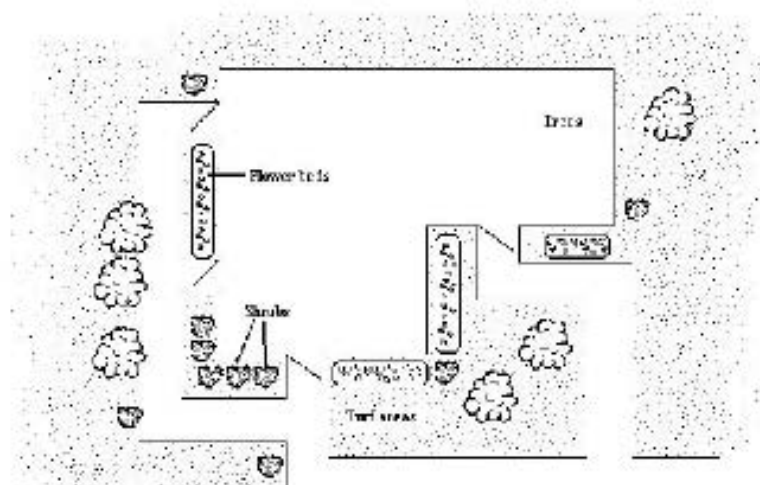
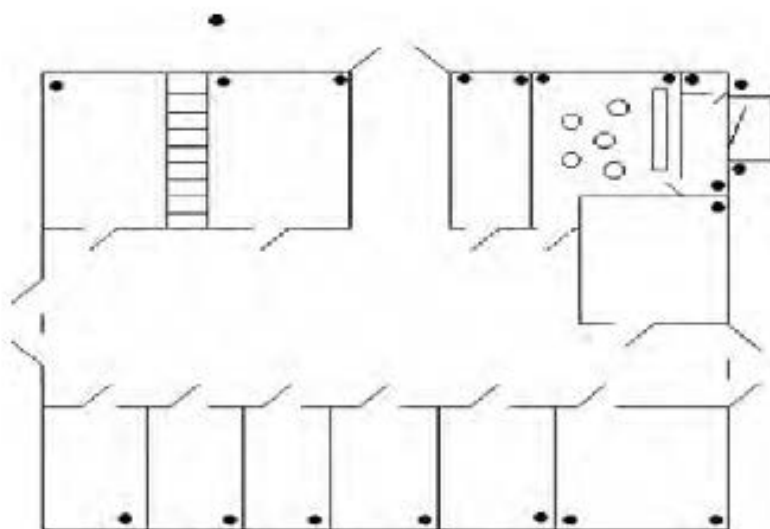

Figure 1. An example of a site plan for exterior landscaping.
Figure 2. A site plan for interior pest control. Dots represent the locations of pest monitoring traps.
- a. A site plan of the building interior and an exterior site plan of the grounds—both must be able to be copied easily (see Figures 1 and 2).
Site plans are used to direct the inspection and record its results. Sites plans are maps of the property that show important features; building site plans are usually floor plans (Figure 1), while exterior site plans (Figure 2) show the location of trees, notable plantings, landscape features, and problematic situations that need to be addressed.